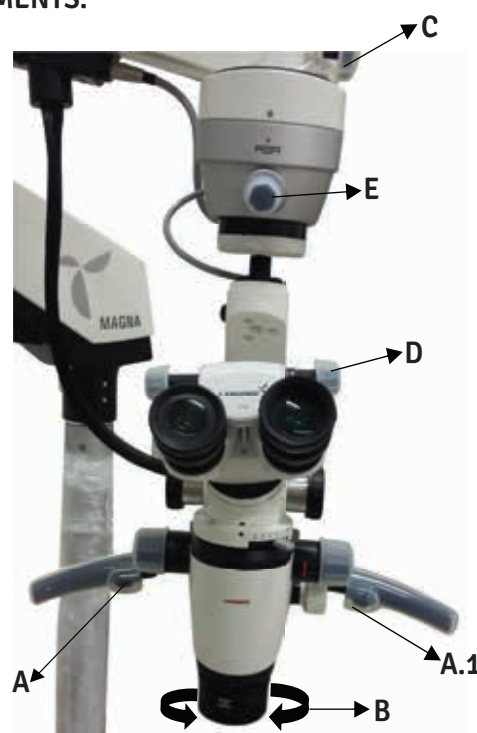

Fig. 19
- Optimize the Auto Balancing Arm (ABA) position by using clutch motions shown as (A) and (A.1) to get the proper field of vision as shown in Fig. 19.
- Desired working distance can be obtained by rotating the ring shown as (B) on the variable objective lens. Fine focusing can be done by the same ring as shown in Fig. 19.
- After focusing, lock swivel arm, suspension arm and ABA arm movements using lock knobs shown as (C) in Fig. 19.
- Adjust the inter-pupillary distance (IPD) of the eyepieces using the IPD adjustment knob shown as (D) in Fig. 19.
- The illumination is controlled through the intensity control knob shown as (E). Rotate it clockwise or anticlockwise to achieve the desired illumination level as shown in Fig. 19.
- c. Refer Fig 19 Use the Clutch Buttons shown as (A) on Left handle and (A.1) on Right handle to Centre the area of interest in the field of view.